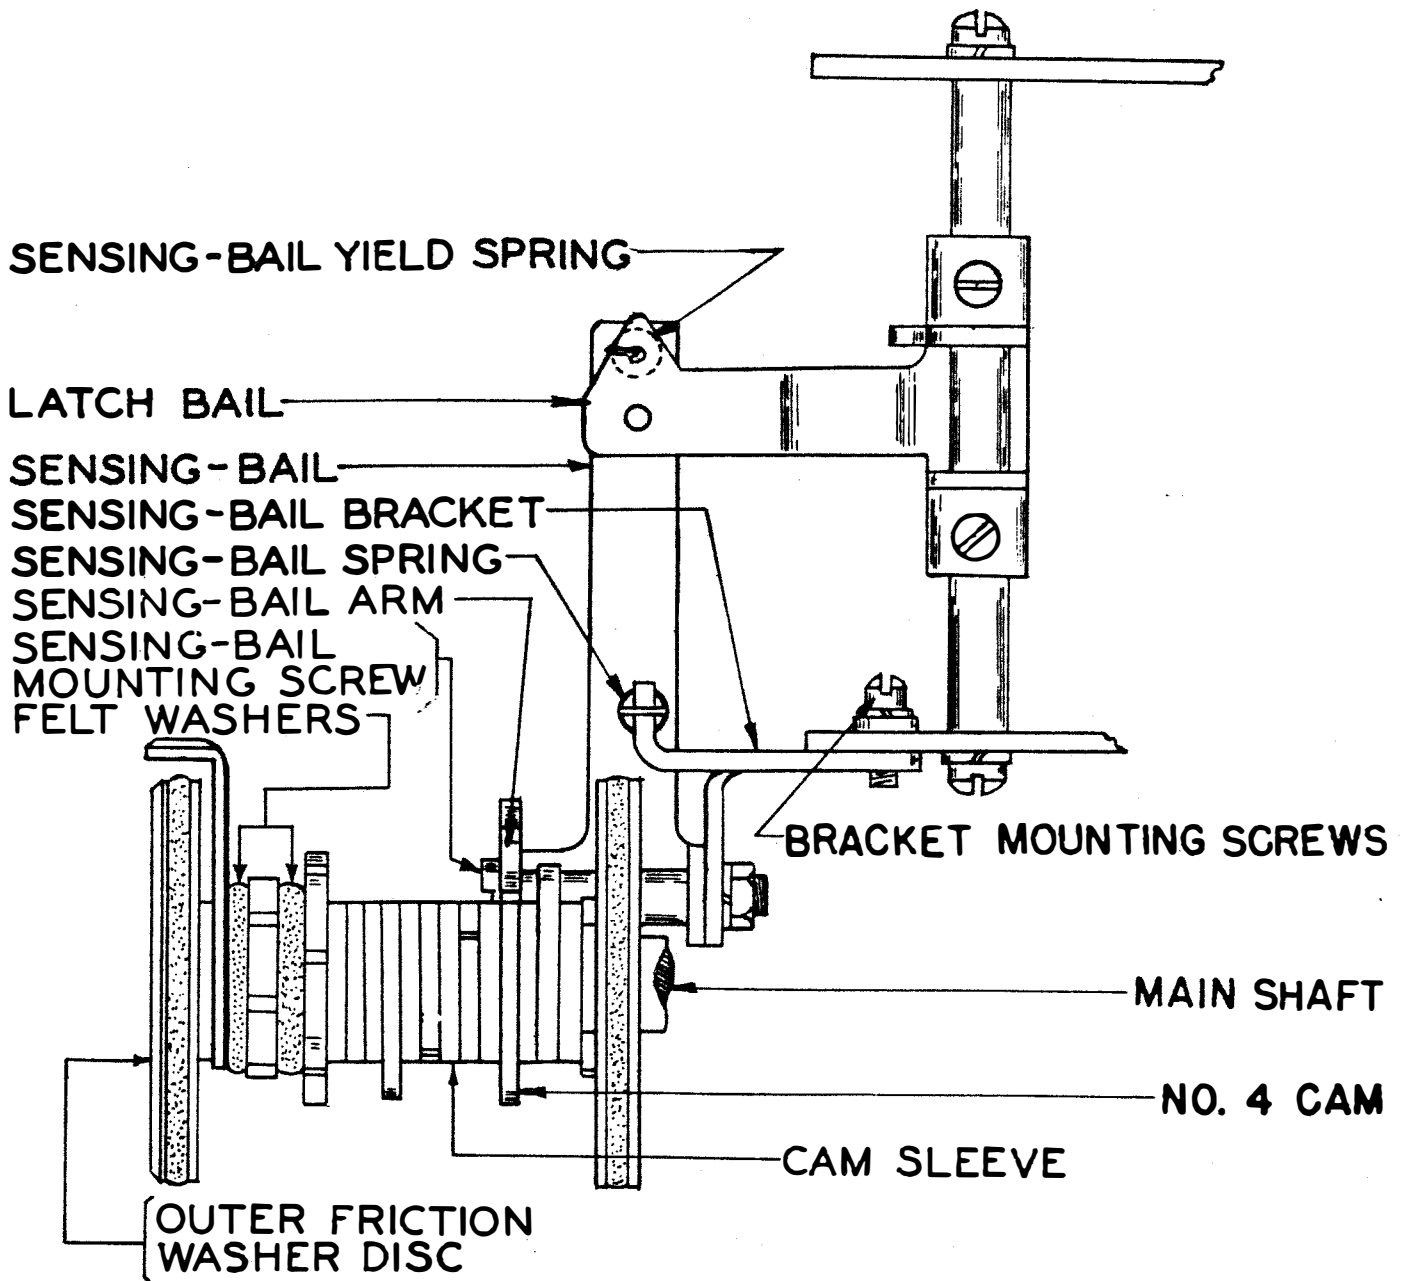

Figure 6
- (7) For the SOTUS, the following replaces steps (4) and (6):
- (a) Remove the timer sensing-bail mounting screw and allow the sensing-bail to hang out of the way. (See Figure 6.)
- (c) Remove the outer friction-washer disc from the main shaft by applying a screwdriver to the slot in the disc and turning in a clockwise direction while holding the main shaft. (See Figure 6.)
- (d) Remove the selector camsleeve by slipping it off the shaft. (See Figure 6.)